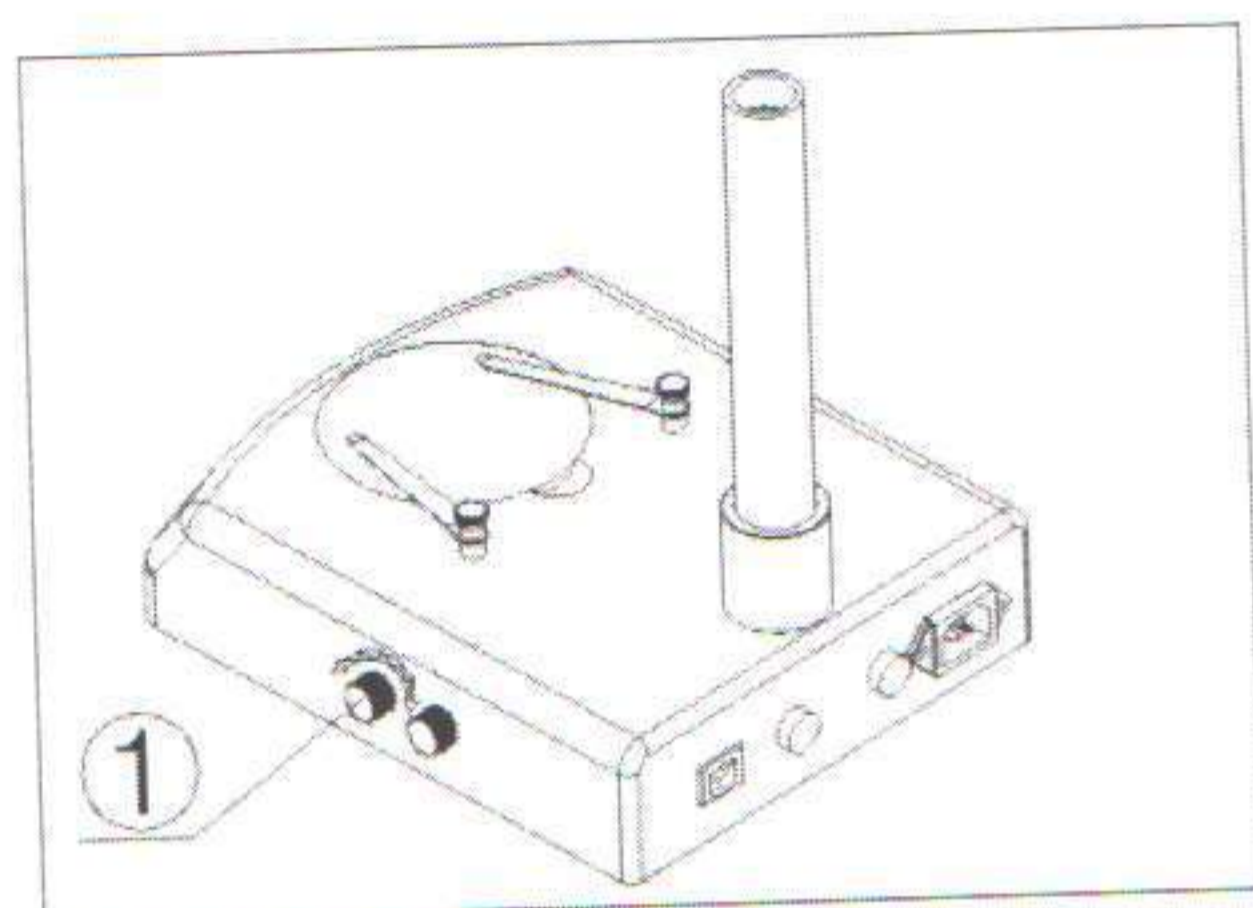

Fig.13
- 1) Turn the adjustable light knob ① according to the sign marked on the base, along the clockwise the brightness will be added, otherwise it will be weakened. (Fig.13)